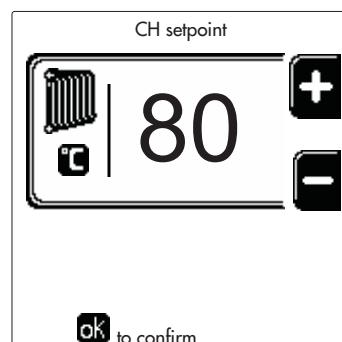
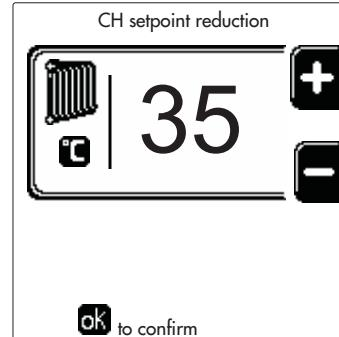
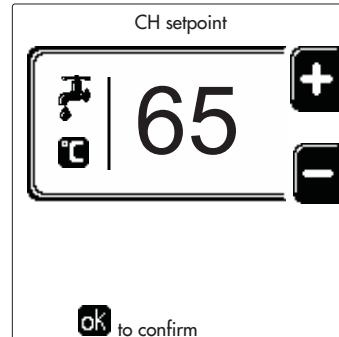
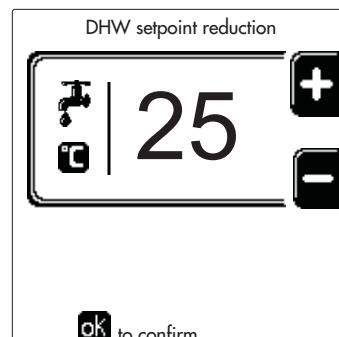

fig. 13
fig. 14
fig. 15
fig. 16
- **ON**. In case of a Heating/DHW request, the boiler works at the set Heating/DHW Adjustment Temperature (fig. 13/fig. 15).
- **OFF**. In case of a Heating/DHW request, the boiler works at the Reduced Adjustment Temperature. The Reduced temperature is obtained by subtracting the Reduction Adjustment Temperature (fig. 14/fig. 16) value from the set Heating/DHW Adjustment Temperature (fig. 13/fig. 15).